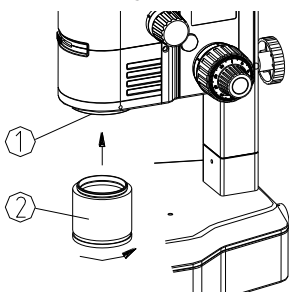

Fig. 5
1) Rotate the objective as the arrowhead direction shown in the figure, and screw the objective ② into the objective installation screw hole ①. (See Fig. 5)